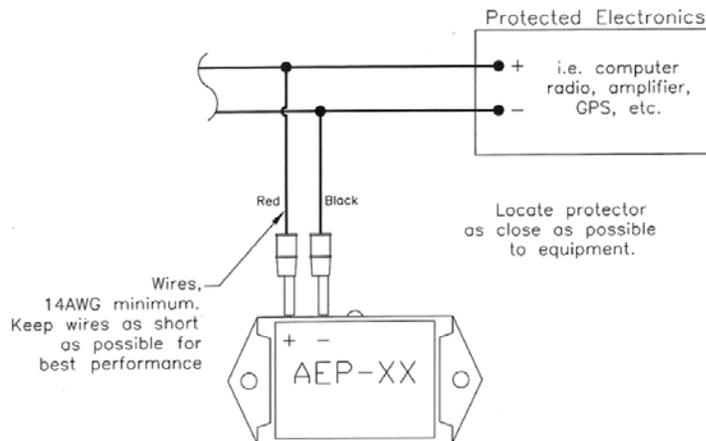

Figure 1
7. Use two "quick splice" insulation displacement connectors to tap into the two power wires feeding the equipment. If "quick splice" terminals are not available or cannot be used, remove a small section (3/8") of insulation off the two power leads. Strip the remaining ends of the protector's red and black wire and wrap the wire around the exposed wires of the equipment's power leads. Soldering the wires will ensure a reliable connection. See Figure 1.